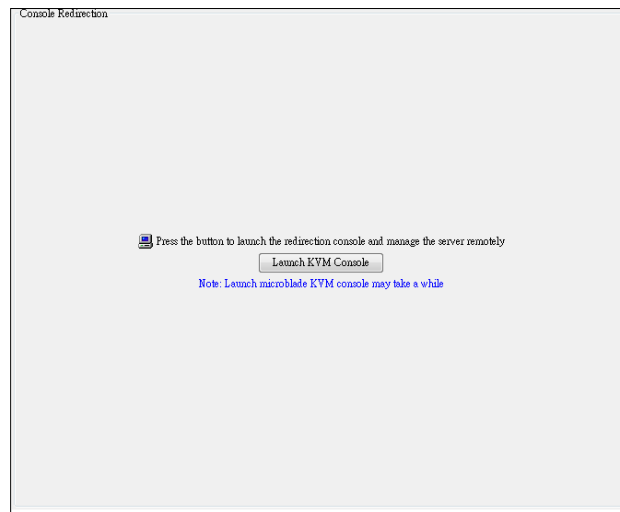

Figure 3-1
1. To launch the console, click the **Launch KVM Console** button (Figure 3-1).